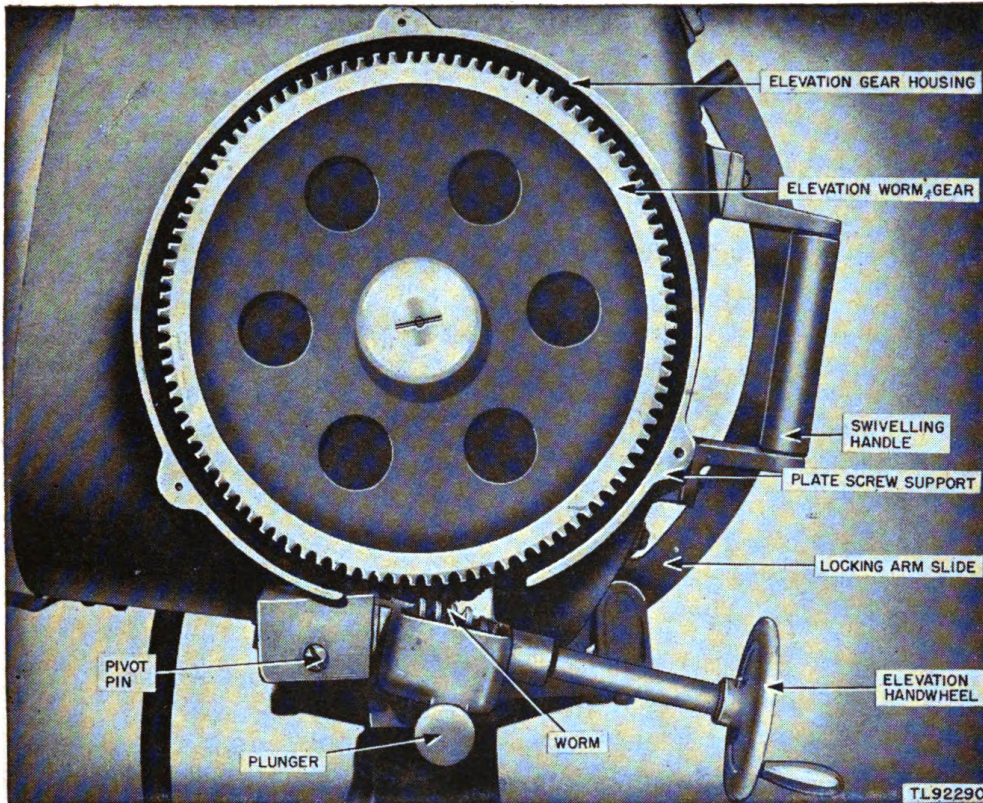

Figure 15. Elevation gear assembly, disengaged, cover plate removed.
(1) *Elevation gear assembly* (fig. 15). (a) Remove the three screws which hold the plate on the elevation gear housing and remove the plate.